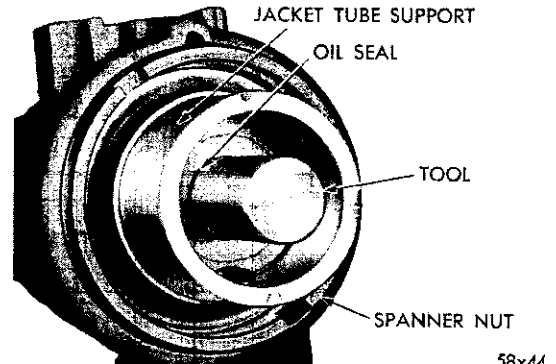

Fig. 33—Installing the Worm Shaft Upper Seal
- (1) Install the worm shaft upper oil seal using Tool C-3650 (Fig. 33) (with the lip of the seal toward the bearing).